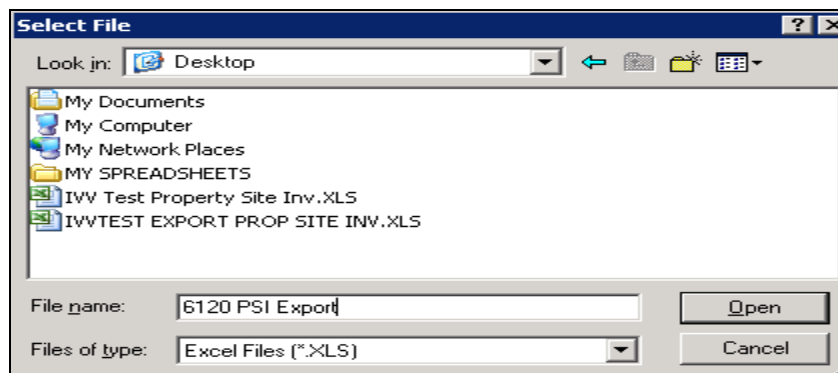

Figure 6-106: Mitigation > Projects > Application Development > PSI Tab > Export > Select File Window
2. Click the Export button. The Select File window will appear (Figure 6-106)